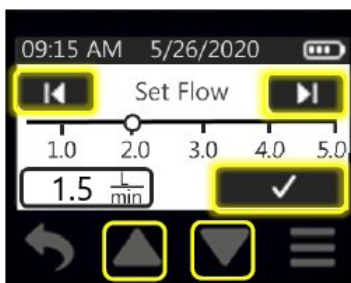

Figure 7. Left/Right and Up/Down Buttons
4. To toggle flow settings; Touch the left or right arrow buttons; flow changes by increments of 0.5 L/min. Touch up/down arrow buttons to fine-tune setting (Figure 7).